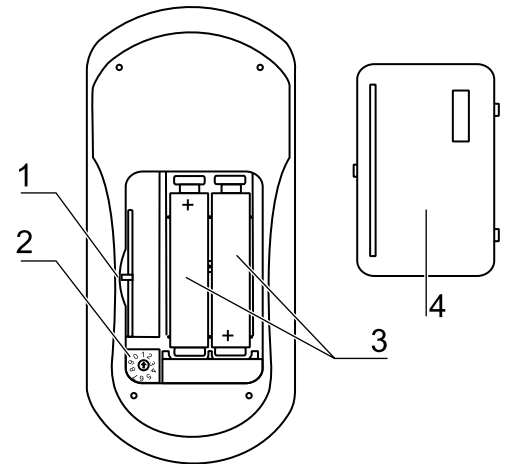

Fig. 12
1. **Fig. 12:** Open the lid [4] of the battery housing at the bottom of the remote control by inserting a pointed instrument into the notch [1] and prying the lid off.